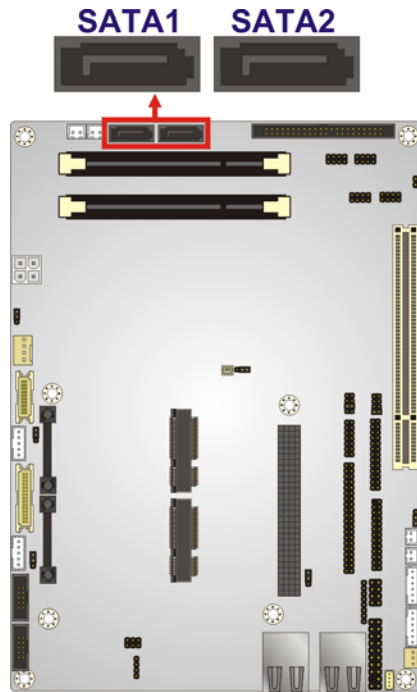

Figure 3-24: SATA Drive Connector Locations
- CN Location:** See **Figure 3-24**